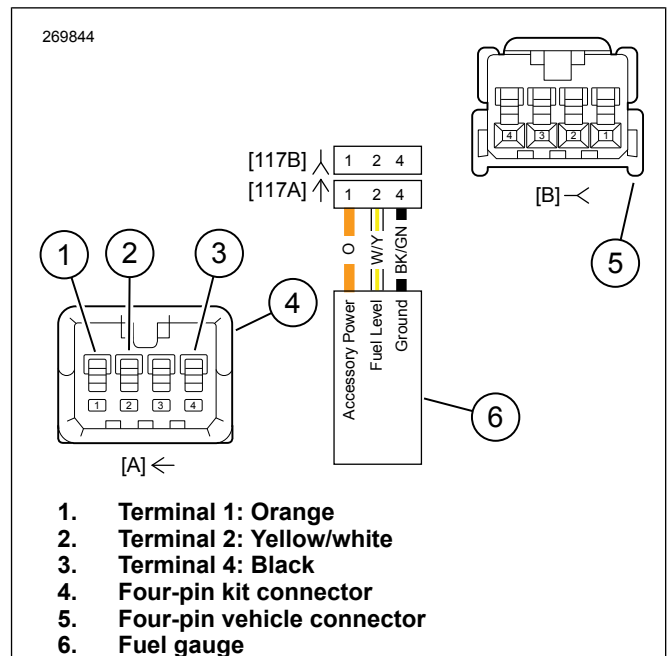

Figure 7. Four-Pin Connector
10. See Figure 7. Install wires into the correct cavities of the four-pin connector from the kit. Refer to Appendix B in the service manual.